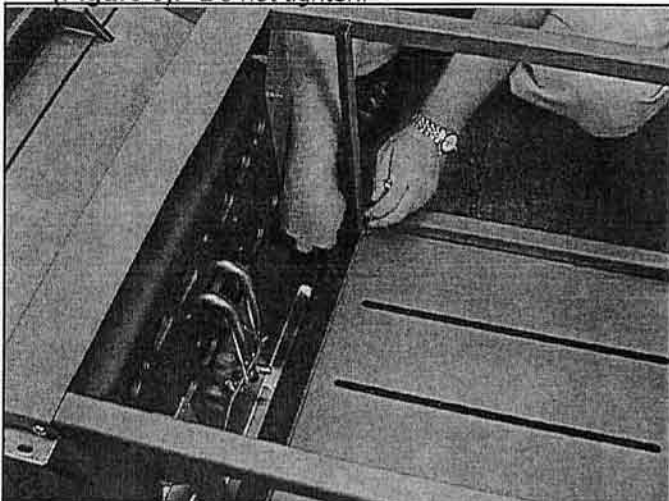

Figure 7 - Attaching Deluxe cart front panel
- 4) Insert front panel between legs, base, and leg support brackets. Attach using (4) #8x32 screws and nuts (**Figure 7**).